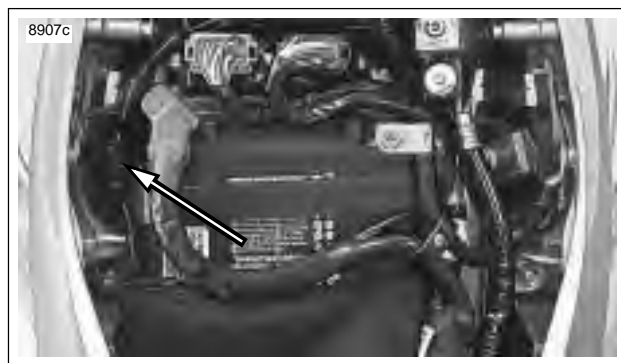

Figure 2-50. Brake Line Switch Connector
6. See Figure 2-50. Disconnect brake light connector located under the seat.
- a. If removed, attach remote reservoir (1) to frame using fastener and washer (3). Tighten to 48-72 **in-lbs** (5.4-8.1 Nm).
- b. Attach hose (3) to rear brake reservoir using clamp.
5. See Figure 2-50. Connect brake line switch connector under seat.